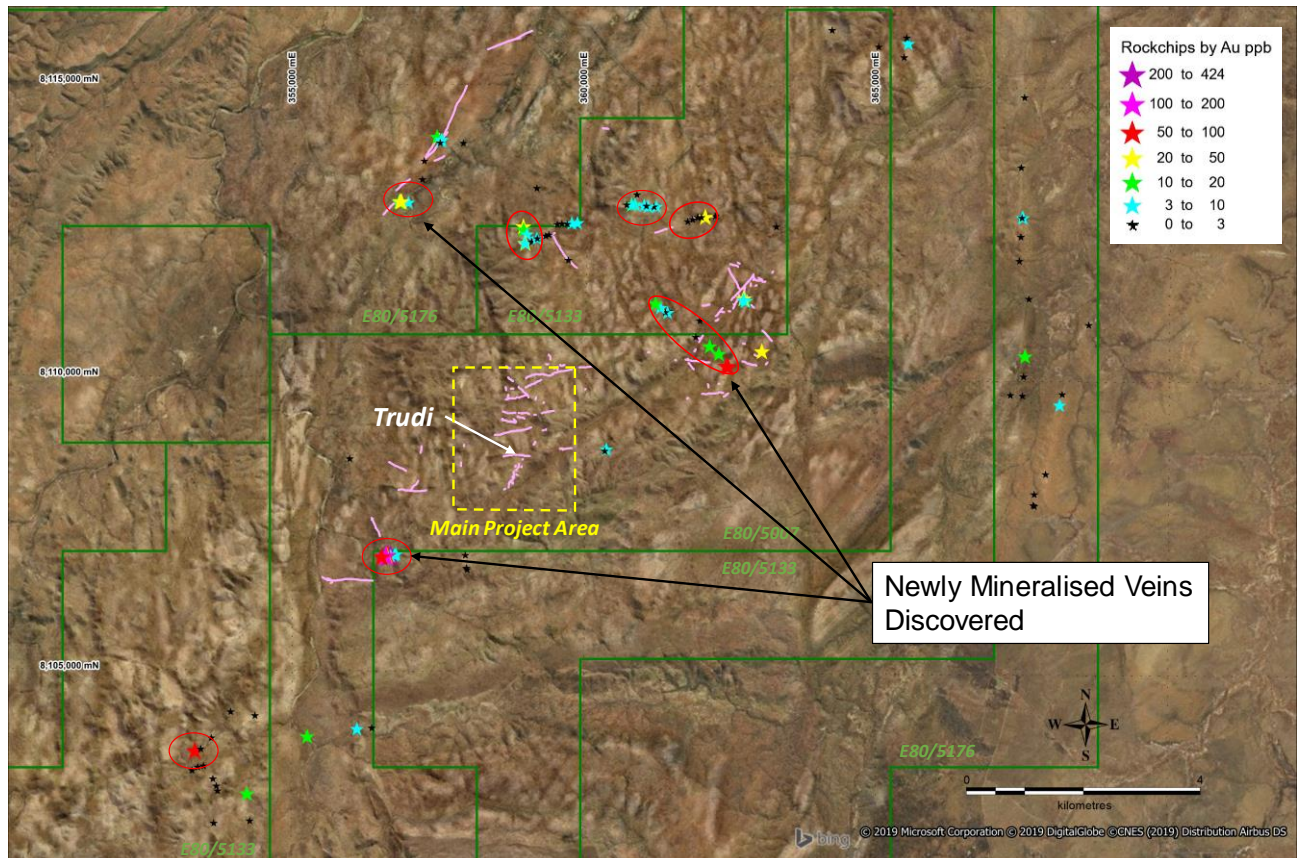

Figure 3: Location of recently discovered mineralised veins (red ovals) outside the main project area.
- Test newly discovered gold mineralized veins outside of the main project area (ASX announcement 7/1/19) – Figure 3.